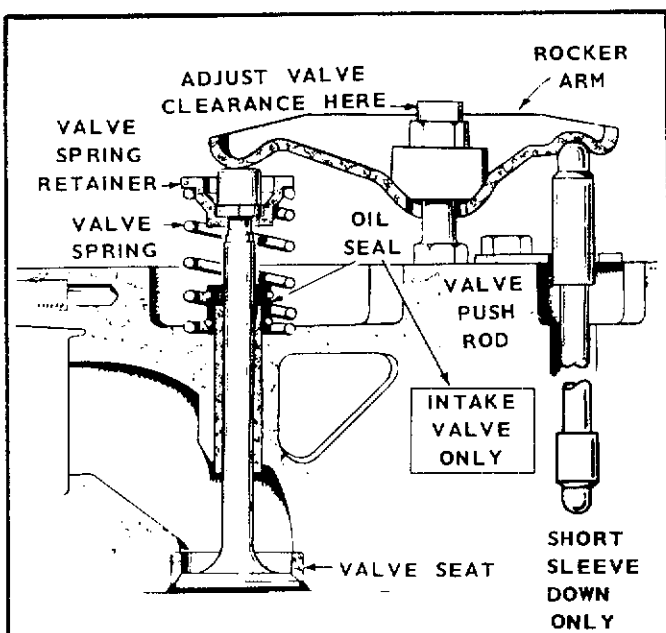

FIGURE 18. VALVE MECHANISM
Speed Adjustment: To change the governor speed, change the spring tension by turning the governor spring nut (Figure 18). Turn the nut clockwise (more spring tension) to increase RPM and counterclockwise to reduce governed speed. Hold a tachometer against flywheel cap screw or use frequency meter.
Sensitivity Adjustment: To adjust governor sensitivity (no-load to full-load speed droop), turn the sensitivity adjusting ratchet (Figure 18). Counterclockwise gives more sensitivity (less speed drop when full load is applied), clockwise gives less sensitivity (more speed drop). If the governor is too sensitive, a rapid hunting condition occurs (alternate increasing and decreasing speed). Adjust for maximum sensitivity without hunting. After sensitivity adjustment, the speed will require readjustment. After adjusting the governor, secure lock nut.
3. To change the setting of valve clearance, adjust the locknut which secures the rocker arm to the cylinder head (see Fig. 18). Loosen the locknut to increase clearance and tighten it to reduce clearance.